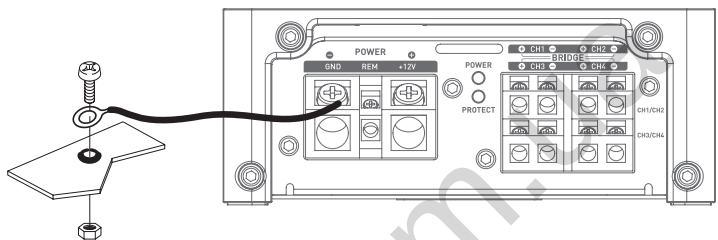

fig. 2
- 10 - Prepare the chassis ground (earth) by removing all traces of paint from the metal surface, thus ensuring a good ground (earth) contact. Ground (earth) connections should be as short as possible and **ALWAYS** connected to metal welded to the vehicle bodywork or chassis (**Fig. 2**). The grounding (earthing) point usually chosen is the one used to connect the negative terminal of the battery to the vehicle chassis.
3.3.2 – Locate the negative [-] power cable. This cable should be as short as possible and ideally should not exceed 1 meter in length, in order to ensure an optimal connection between the amplifier and the vehicle chassis. The cable and its gauge must be in accordance with the table in 3.1. Locate an appropriate ground (earth) point, then sand it to remove all traces of paint or other finish, thus optimising the quality of the connection. Drill through the sheet metal you have previously sanded, making a hole to match the bolt you have chosen, ensuring you are well clear of all cable routes, reservoirs or tanks or other sensitive vehicle parts. Solder and insulate (using heat shrink sleeving) the earth cable to the FPX amplifier earth connector supplied (*Fig. 2*).